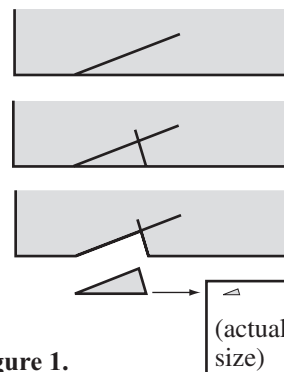

Figure 1.
1. To make the small tree, use scissors to cut out a small triangle, about 2-mm tall and 0.5-mm wide, from the copper strip (see Figure 1).